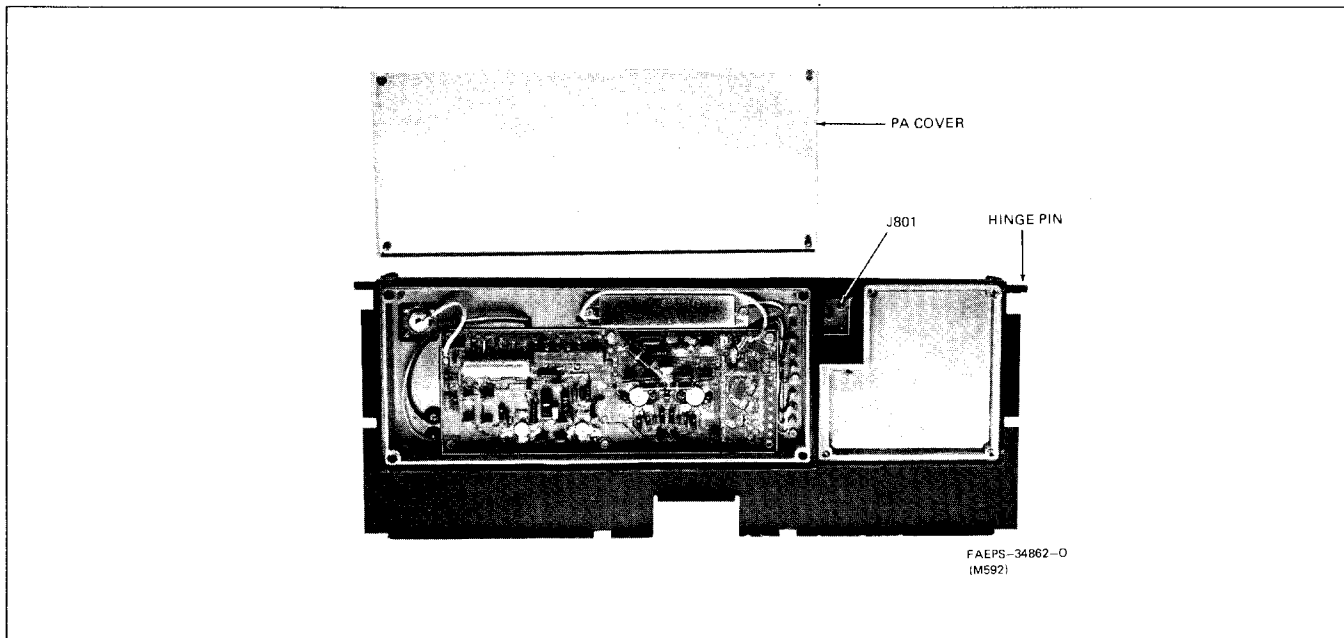

Figure 2. Power Amplifier Detail of Intermittent Duty Station
**5.2.1.2** To gain access to the power amplifier board for servicing, remove the two black power amplifier securing screws. Swing the PA chassis assembly out and down (it is hinged at the bottom). Loosen 4 captive screws holding the cover over the power amplifier board (refer to Figure 2).